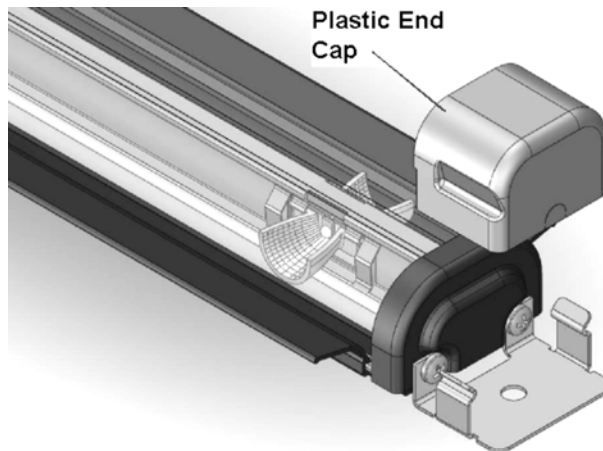

Figure 7.
- Snap J-Box cover (refer to Figure 7) on the wire-end of the end clip.